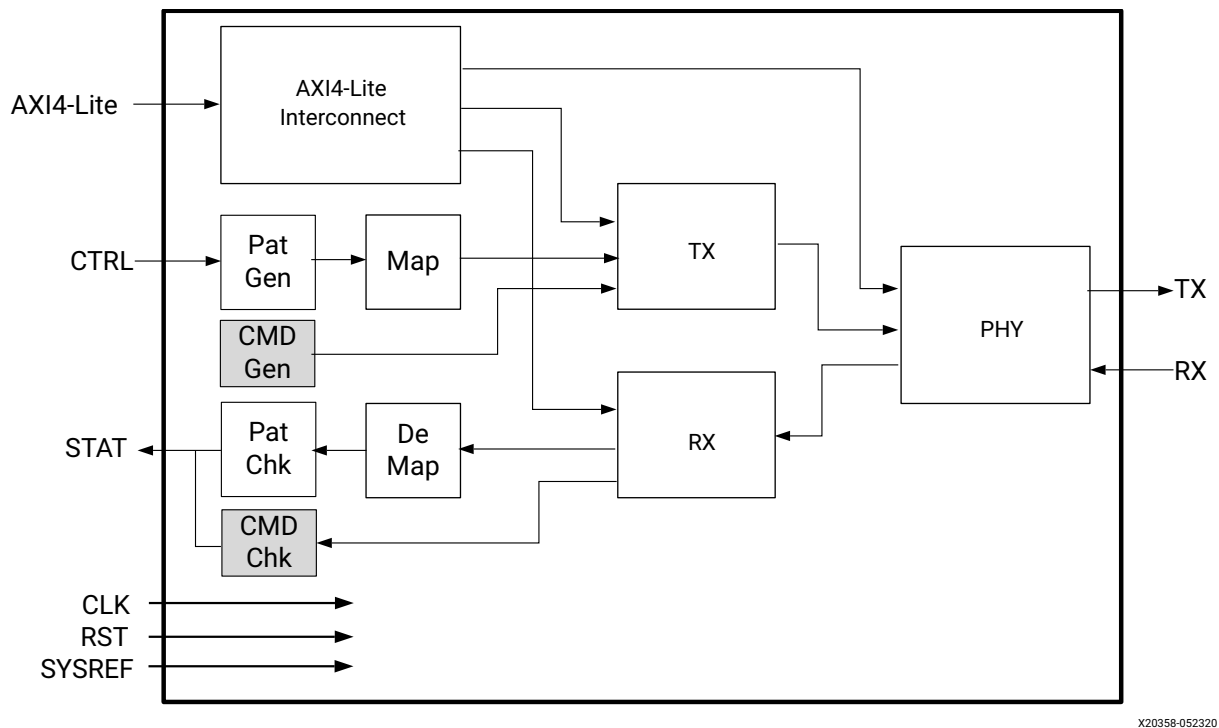

Figure 5-4: Core Example Design for UltraScale+/UltraScale Devices
- A JESD204_PHY core (configuration set in the JESD204C core GUI PHY Configuration tab) (Figure 5-4).